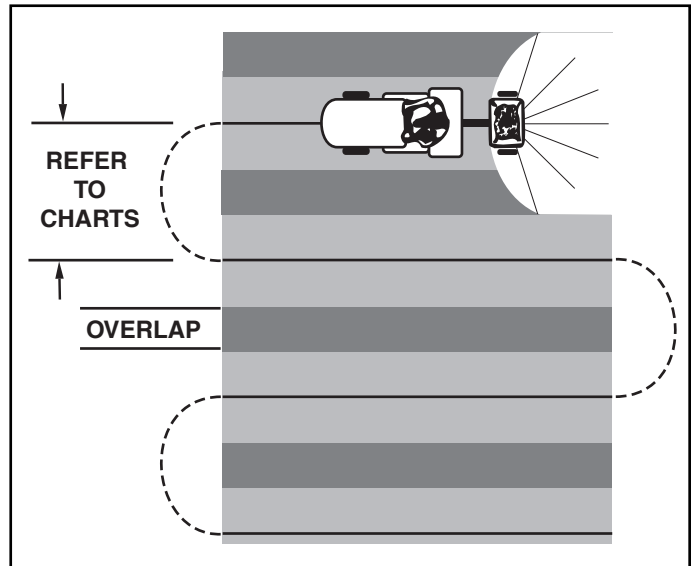

FIGURE 16
8. To insure uniform coverage, make each pass so that the broadcast pattern slightly overlaps the pattern from the previous pass as shown in Figure 16. The approximate broadcast widths for different materials are shown in the application chart on this page.